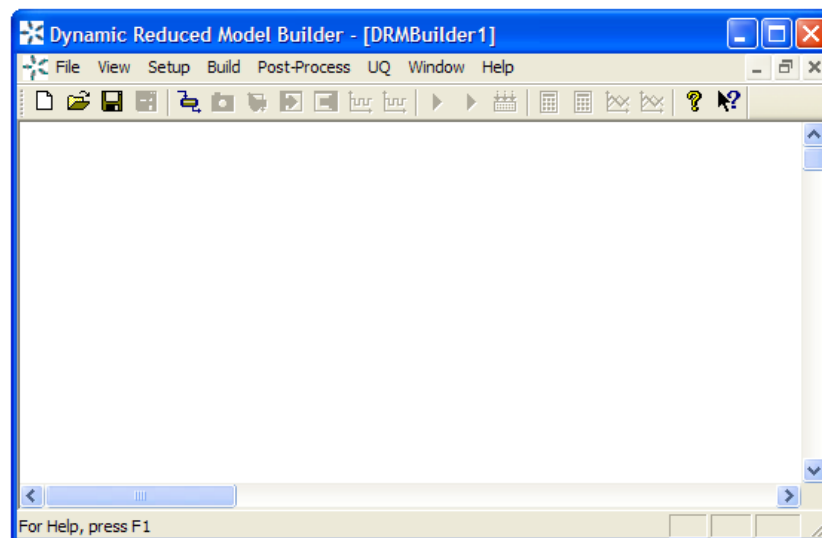

Figure 7: Main Window of the D-RM Builder
5. After the MATLAB/Simulink file is prepared, start the D-RM Builder by double-clicking the shortcut icon of the D-RM Builder on the desktop or from the “Start” menu. The main window of the D-RM Builder displays as shown in Figure 7.